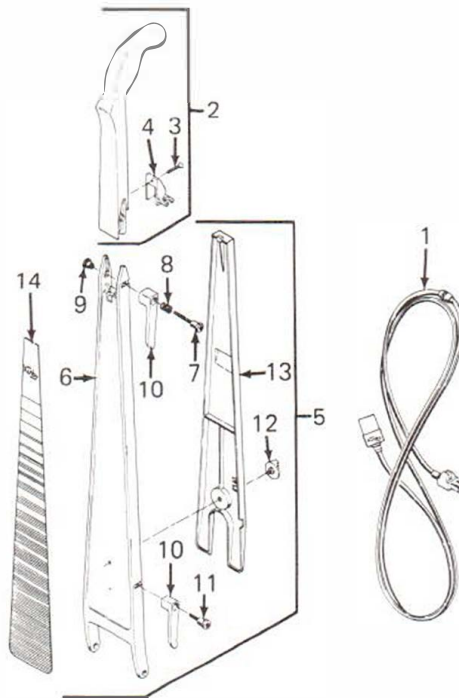
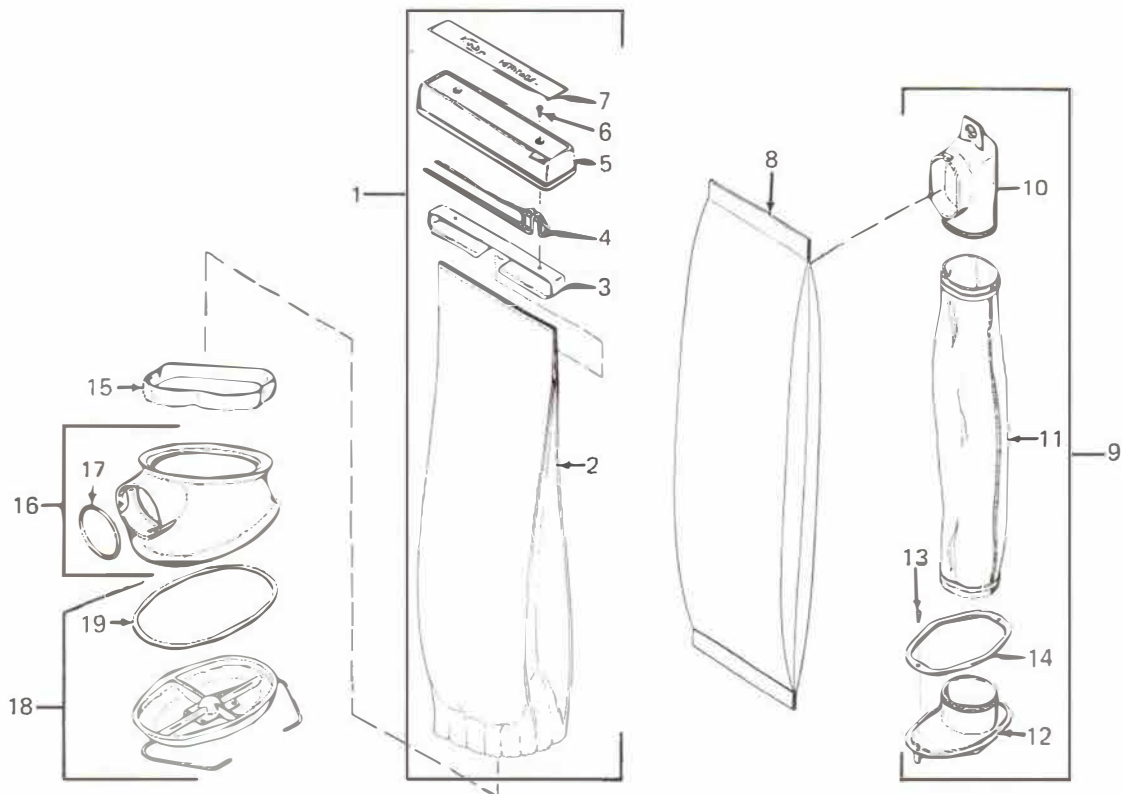
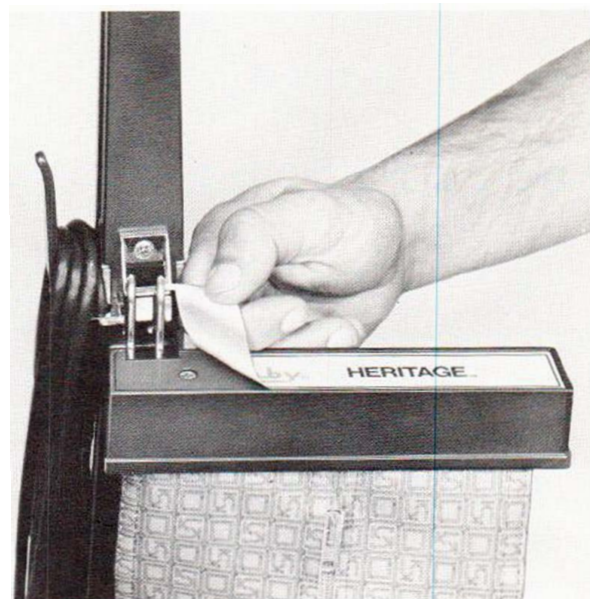
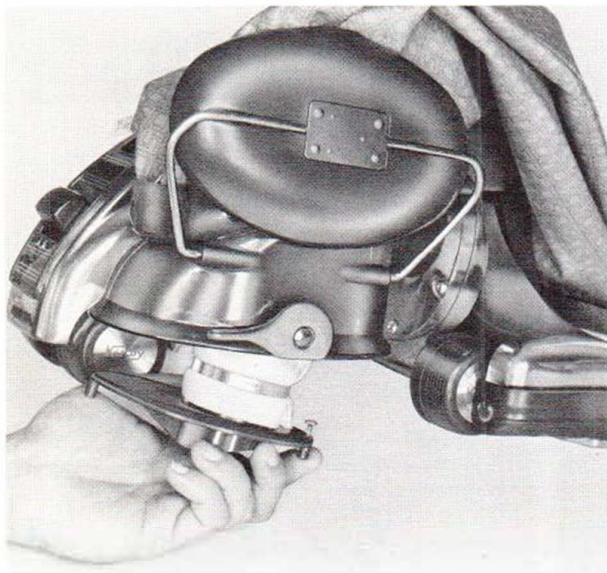

Figure 3-1. HERITAGE handle group, exploded view
Figure 4-1. HERITAGE Sani-Em-Tor and bag group, with disposable bag, exploded view
Figure 4-2. Label on top cover and mounting screw
Figure 4-5. Filler tube and adapter cover through bottom of Sani-Em-Tor body
The exploded view illustration in figure 3-1 shows all available parts for the Handle Group of the HERITAGE. The parts are drawn in proper relationship to each other to serve as an aid to disassembly and reassembly. Note the following:
The exploded view illustration in figure 4-1 shows all available parts for the Sani-Em-Tor and Bag Group with disposable bag and adapter of the HERITAGE. The parts are drawn in proper relationship to each other to serve as an aid to disassembly and reassembly. Note the following:
(1) Unscrew the Sani-Em-Tor to remove it from the motor unit.
(2) Lift label (7, fig. 4-1) to access cover mounting screws (6) as shown in figure 4-2.
(3) Remove both screws to remove top cover (5, fig. 4-1), wire hanger (4), and support hanger (3) from bag (2).
(4) Pull up bag guard (15), and slide it along and off the bag. Stretch the spring in the bottom of the bag and remove the bag from the Sani-Em-Tor.
(2) Slide bag guard (15, fig. 4-1) over the bag and pull it down around the bag bottom to seal the bag to the Sani-Em-Tor.
(3) Slide the legs of support hanger (3) between the folds on each side of the bag. Install
a. Removal. If a pocket bag is used on the unit, the bag must be removed as described in paragraph 4-2. If a zipper bag is used, detach wire hanger (4) from hanger bracket (4, fig. 3-1), unzip the bag and fold the sides out of the way to pull filler tube (11, fig. 4-1) out of the bag, as shown in figure 4-4. Remove the two screws (13, fig. 4-1) and drop the adapter collar (12) through the Sani-Em-Tor body and out the opened bottom tray as shown in figure 4-5.
(1) With the bottom tray (18, fig. 4-1) of the Sani-Em-Tor open, slip the filler tube up into the bag, and secure the collar in place with mounting screws (13).
(2) Attach the filler tube to the elastic hanger in the top of the bag. If a pocket bag is used, reinstall the bag onto the Sani-Em-Tor as described in paragraph 4-2. If a zipper bag is used, zip the bag closed and attach it to the hanger bracket.
(1) Release the bail on Sani-Em-Tor bottom tray (18, fig. 4-1) and open the bottom tray. Disengage the ends of the bail from the Sani-Em-Tor body and remove the bottom tray.
(1) If body gasket (17, fig. 4-1) is worn, cracked, or gouged, use a knife or screwdriver to remove the gasket from Sani-Em-Tor body (16).
(1) Worn or damaged bag. Replace if necessary.
(2) Bag agitation, possibly from bumping the bag into furniture while the motor is running.
(3) Poor seal at the Sani-Em-Tor body. Check the condition of bag guard (15, fig. 4-1) and its position on the bag. Check the condition of the elastic at the bottom of the bag. Replace the bag if the elastic is stretched or damaged.
(1) Check that Sani-Em-Tor bottom tray (18, fig. 4-1) is correctly aligned and tightly installed on Sani-Em-Tor body (16).
(2) Use a brush to clean bottom tray gasket (19) on the tray. If the gasket is damaged or no longer seals tightly, replace it as described in paragraph 4-4.